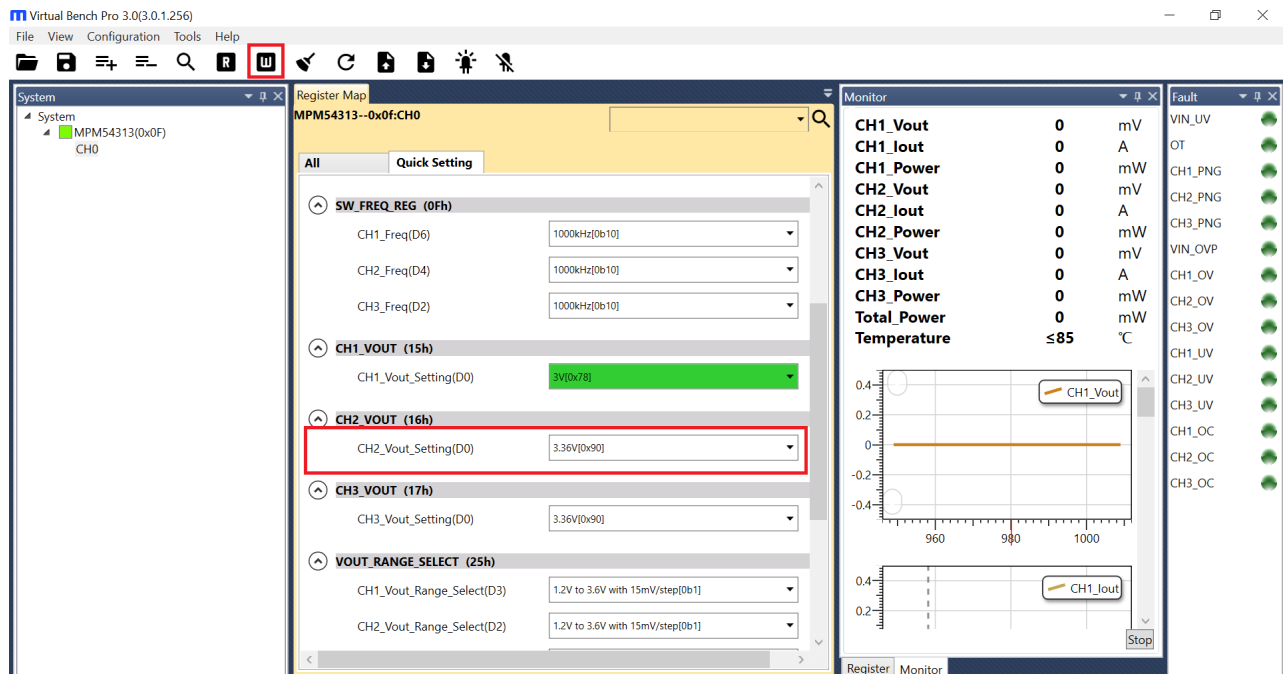

Figure 5: Modify the Register Values
- Change the register values to their required value. A valid input must be entered; otherwise, an alert appears and the entered value is not accepted (see Figure 5).